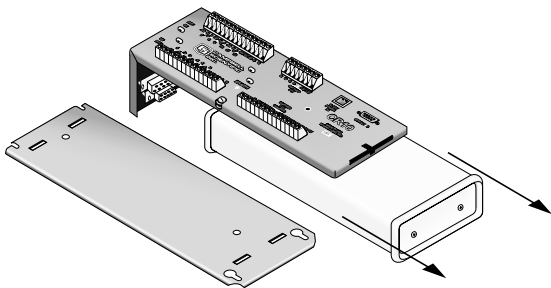

FIGURE 3. Separating the Wiring Panel from the Control Module
6. Pull the control module forward to separate it from the wiring panel (Figure 3).